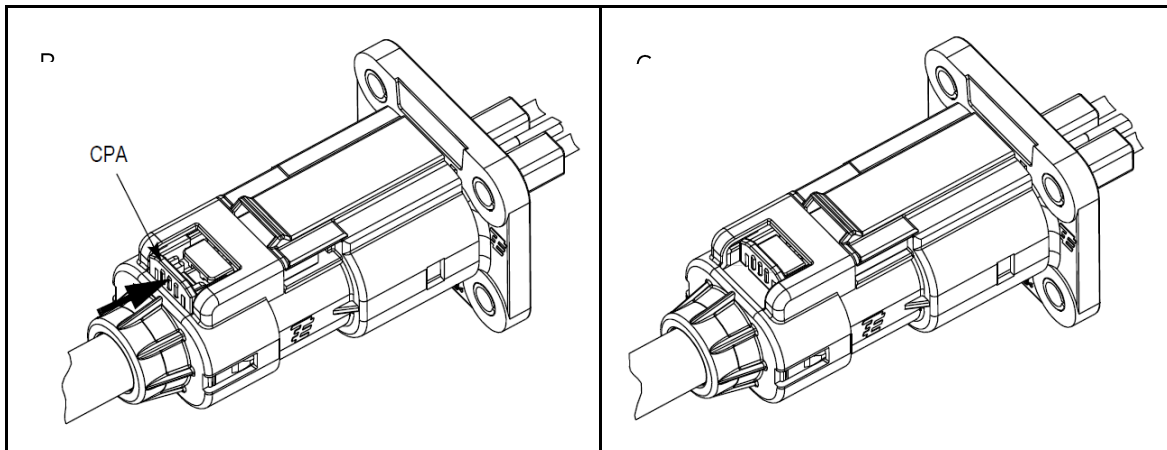

Figure 22 - Connector Mating
- Align plug and header connectors as shown in Figure 22(A)
- Verify that the connectors are fully locked with a light tug and by visually verifying the thumb actuation pad has returned to its' upward position as shown in Figure 22(B).
- If present, push the red Connector Position Assurance (CPA) forward from the position shown in Figure 21B until it stops as shown in Figure 22(C).